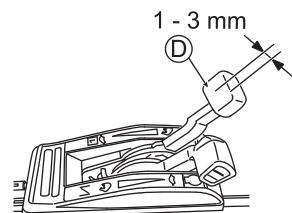

Fig. 26
Adjust the play of the gearshift lever (D) to 1 - 3 mm as shown in Fig. 26.
3. Start the engine and confirm that mowing speed changes when the gearshift lever (D) is operated.